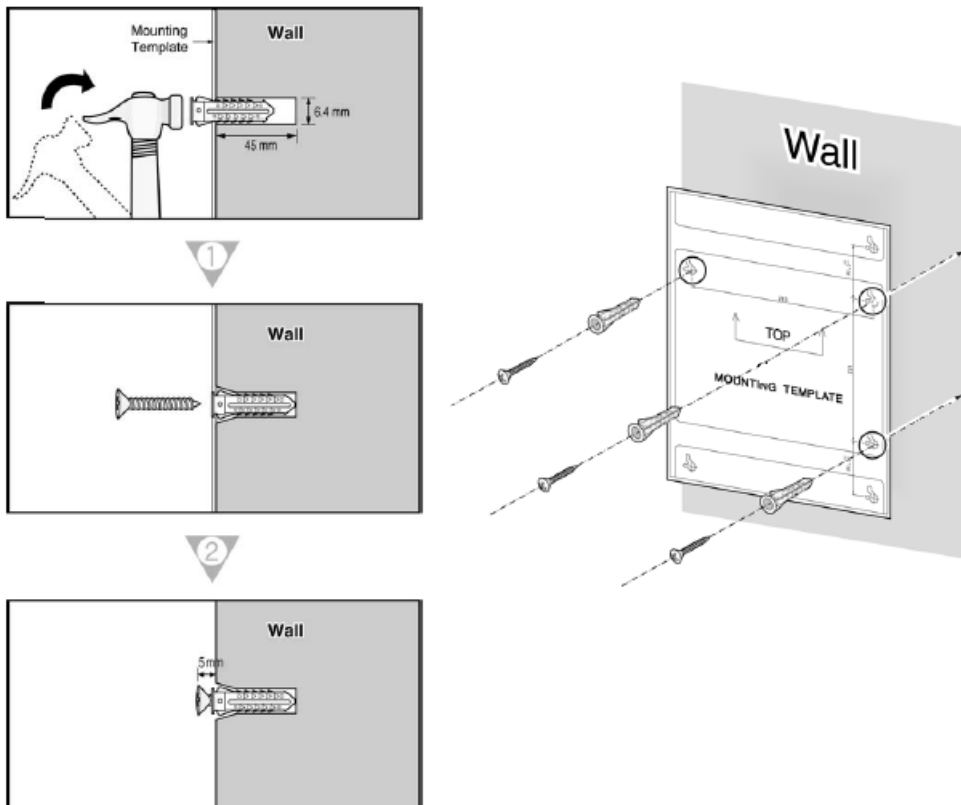

Figure 3-4 Mounting Template
1. Install 3 anchor plugs in the wall using the mounting template included for accurate placement Figure 3-4.